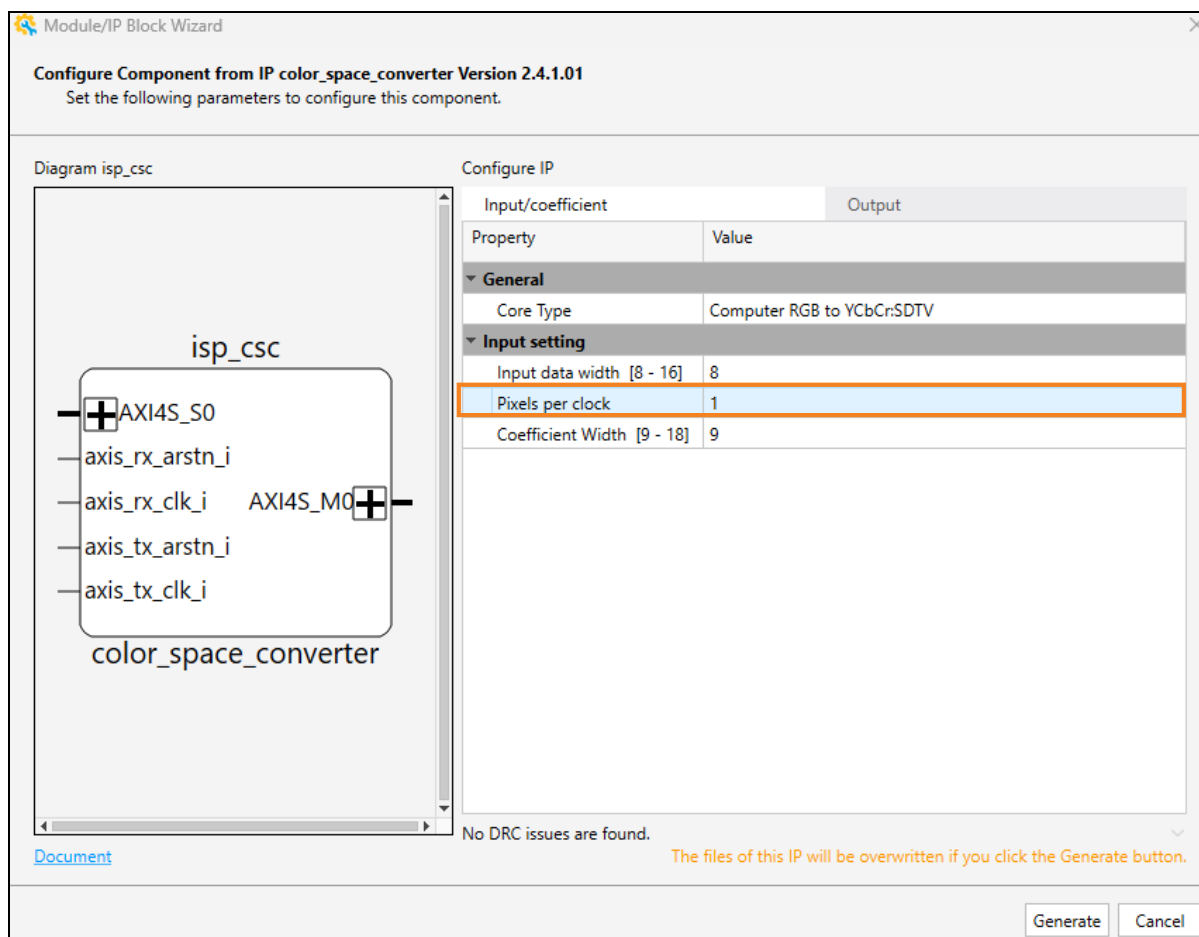

Figure 7.11. Color Space Converter Configuration
2. Under the **Input setting**, set the **Pixels per clock** to 1 (Figure 7.11).